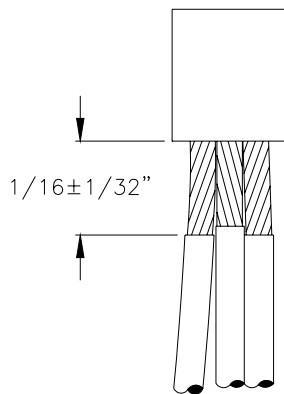

Figure 1
- Strip the wires and install crimp type connector or solder wires together. Connector should be installed so that  $1/6 \pm 1/32$  of conductor is exposed between the connector and the wire insulation, as shown in Figure 1.